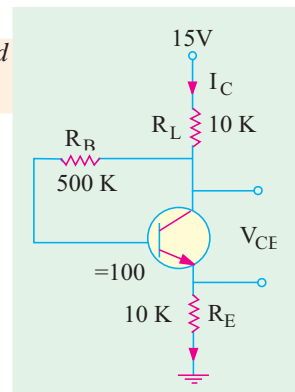

Fig. 58.13
5. emitter bias with two supplies (Fig. 58.13)
Example 58.8. For the circuit shown in Fig. 58.13, find (a) $I_{C(sat)}$ (b) V_{CE} and (c) K_β . Neglect V_{BE} and take $\beta = 100$.